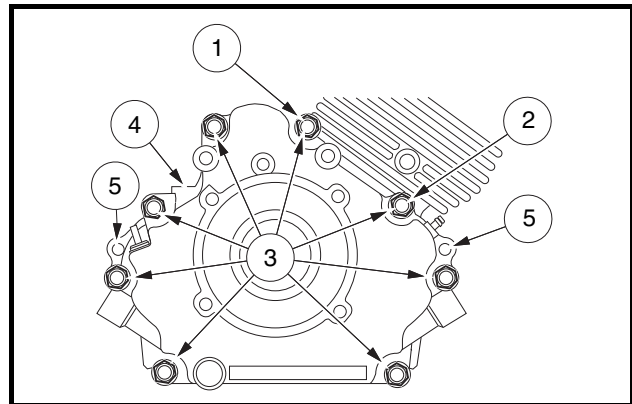

Figure 13-3 Crankcase Cover
2. Remove nuts and clamps at two-ended bolts (1 and 2) (**Figure 13-3, Page 13-5**).
3. Remove eight bolts (3) and remove the crankcase cover (4). **See following NOTE.**
**NOTE:** *If the crankcase cover sticks, tap lightly with a plastic mallet on alternate sides near the dowel pins (5) (**Figure 13-3, Page 13-5**).*